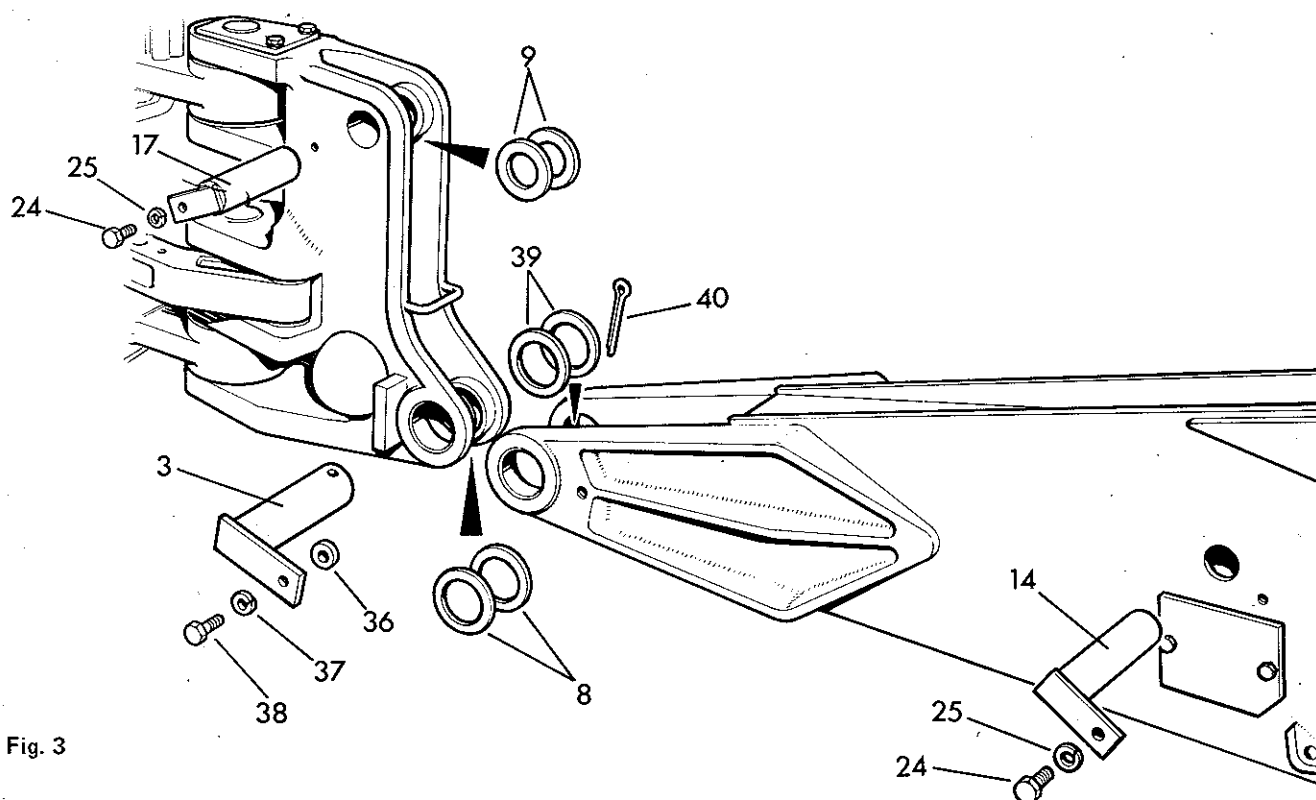

Fig. 3
11. **Boom ram cylinder pin. Remove.** (fig. 3) Remove the setscrew (24) and the washer (25), and with a suitable hammer and drift, remove the pin (17). Collect the spacers (9).
12. **Boom pin. Remove.** (fig. 3) Remove the setscrew (38) and the washer (37). Remove the split pin (40), collecting the washers (39) and (8). With a suitable hammer and drift, remove the pin (3), collecting the spacer (36) and further washers (8).
13. **Boom ram pin. Remove.** Remove the setscrew (24) and the washer (25) from the pivot pin. Using a suitable drift, remove the pin (34), and collect the spacers (9).
16. **Cover plates. Remove.** Remove two screws (5), which secure the cover plate (4), and remove it from both sides of the boom.